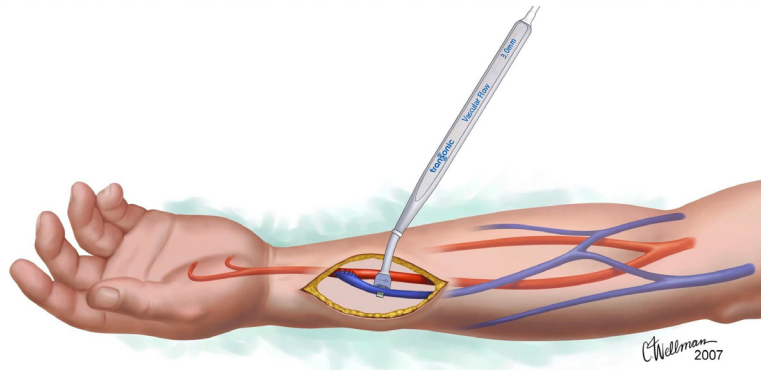

Fig. 1: Measuring arteriovenous (AV) fistula venous outflow with Transonic® Perivascular Flowprobe.
- t = width of the dilution curve at 50% height (Fig. 1).
Fig. 1: Example of thermal dilution curve generated by the change in temperature between isotonic saline injected into the AV access and the diluted temperature registered by the catheter thermistor within the access.
In his landmark 1998 study in *Surgery*, Johnson *et al* reported that for an AV fistula to mature, a venous outflow equal or greater than 100 mL/min at its creation is advised. For an AV prosthetic graft, an initial venous outflow of less than 250 mL/min is associated with a higher rate of initial graft failure.³ As the access matures and arterializes, flow generally increases to levels needed for hemodialysis (greater than 500 mL/min). To ensure adequate flow for hemodialysis, Transonic® intraoperative blood flow measurements provide the surgeon with quantitative flow values during creation of the access (Fig. 1). Johnson and others report that intraoperative blood flow rates at access creation directly correlate to access outcomes including: patency, number of interventions, and length of hospital stays.